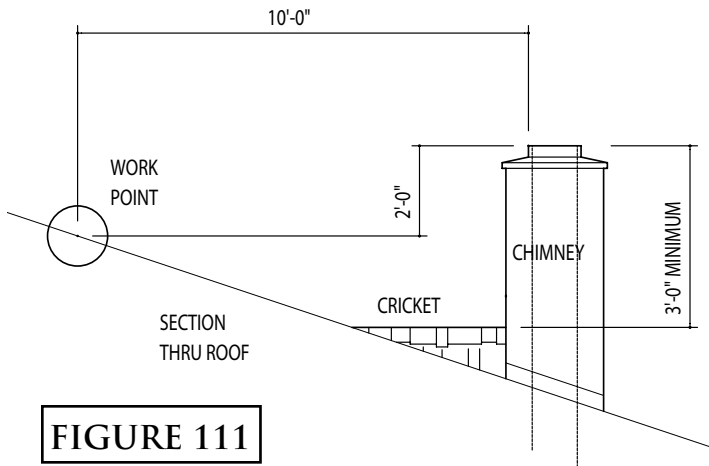

FIGURE 111
- (2) If the horizontal distance from the opening of the chimney to the roof ridge is more than 10’ then a chimney height “work point” is established on the roof surface 10’ horizontally from the opening of the chimney. The top of the chimney must be at least 2’ above this work point (Figure 111).